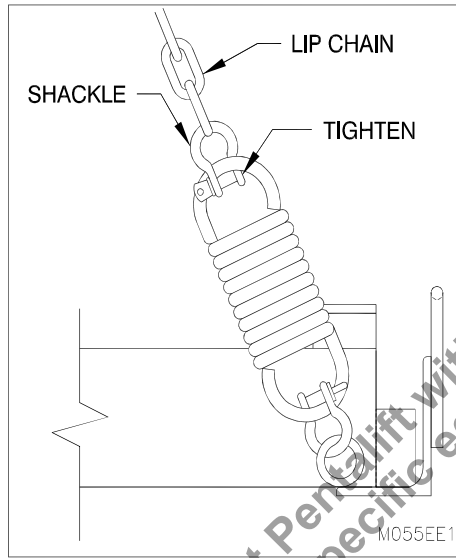

Figure 12: Tighten the Shackle
| Rated Capacity | "A" Dimension, Figure 12, page 7 |
23. ___ Tighten the lip chain shackles. (See “Figure 12: Tighten the Shackle” on page 10)
22. ___ Tighten the lip chain shackle. (See "Figure 12: Tighten the Shackle" on page 10)